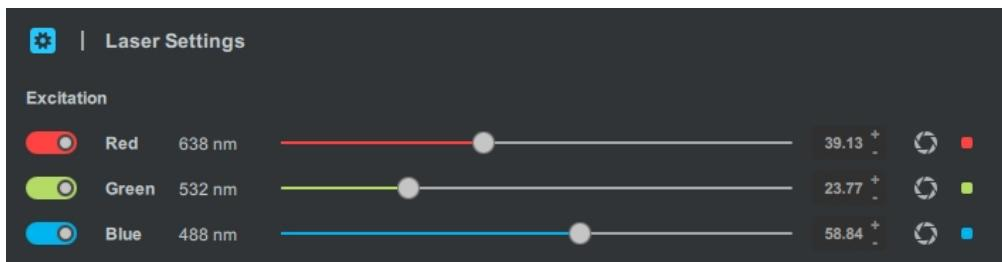

Figure 11.12.2: Figure: Fluorescence excitation laser panel and shutter control.
- Go to the **Excitation** window in Bluelake (see Figure 11.12.2). You will find the fluorescence excitation laser controls with toggles on the left that allow you to enable the lasers.
- On the right side, you will find a manual control that emits the selected percentage output (see Figure 11.12.2). These right toggles are used to turn the fluorescence excitation laser on and off while operating, ensuring continuous stability while the lasers are still enabled using the left toggles.